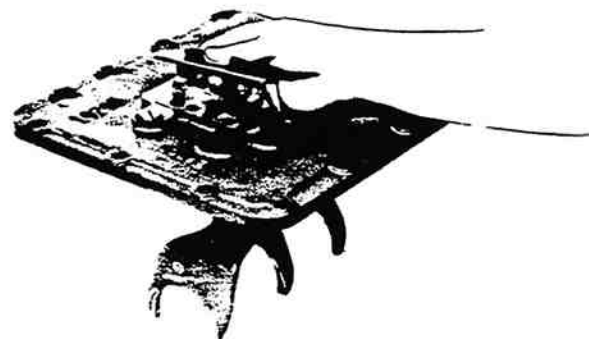

Figure 13-178. Installing Spring Cover.
12. Place a new tension spring cover gasket into position on shift bar housing and install cover. Tighten capscrews to secure (figure 13-178).